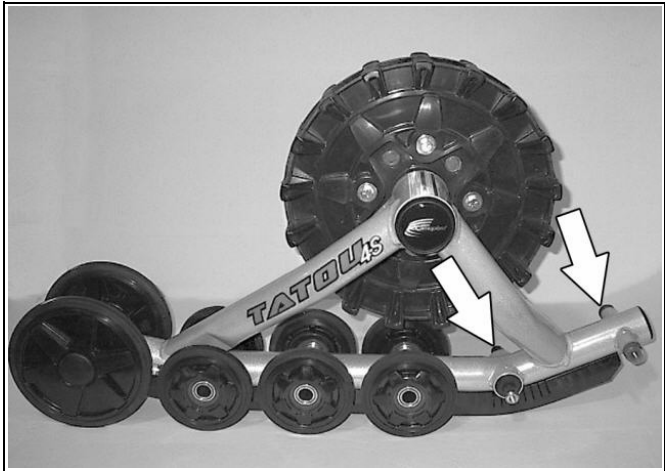

Figure 16
- Remove the two 201-mm wheels opposite to the track tensioner side (refer to Figure 16).